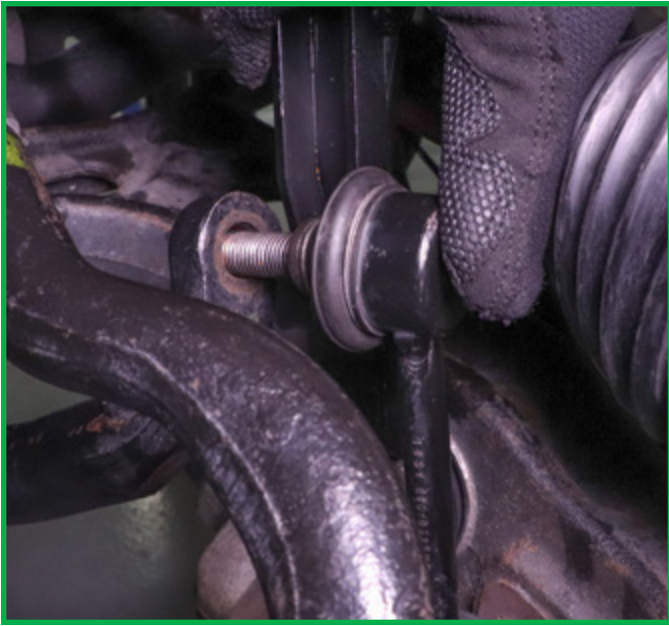

FIGURE 31
6. Reconnect sway bar end link to the shock absorber (not pictured) and tighten to manufacturer's specifications. (Figures 31, 32)